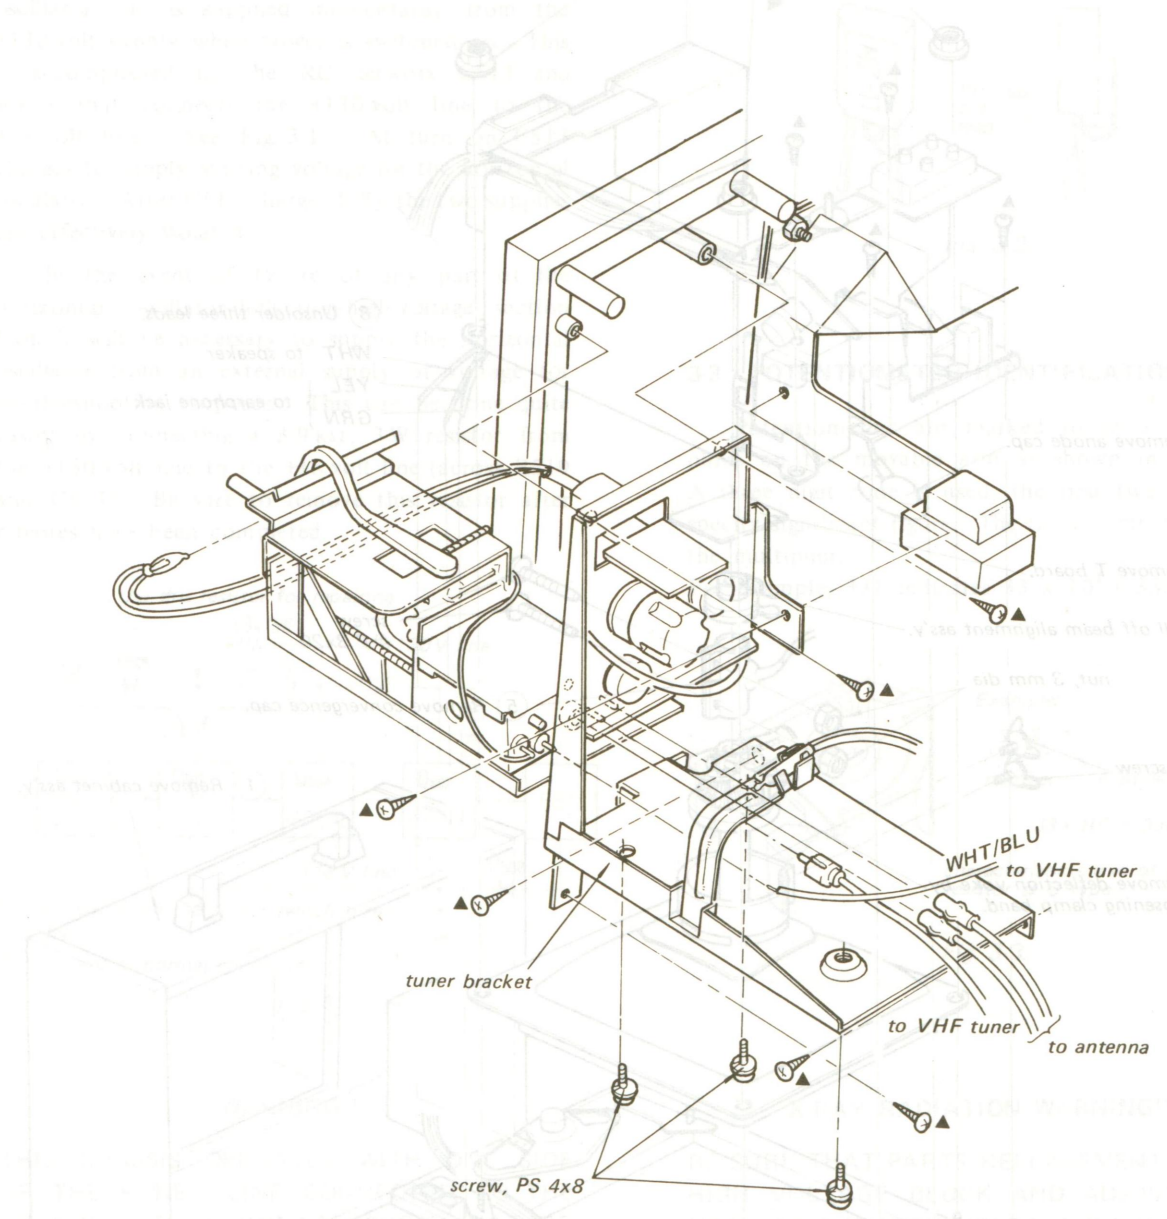

Fig. 2-3.
3. Remove the three screws (PS 4x8) to pull out the tuner forwards as shown in Fig. 2-3.